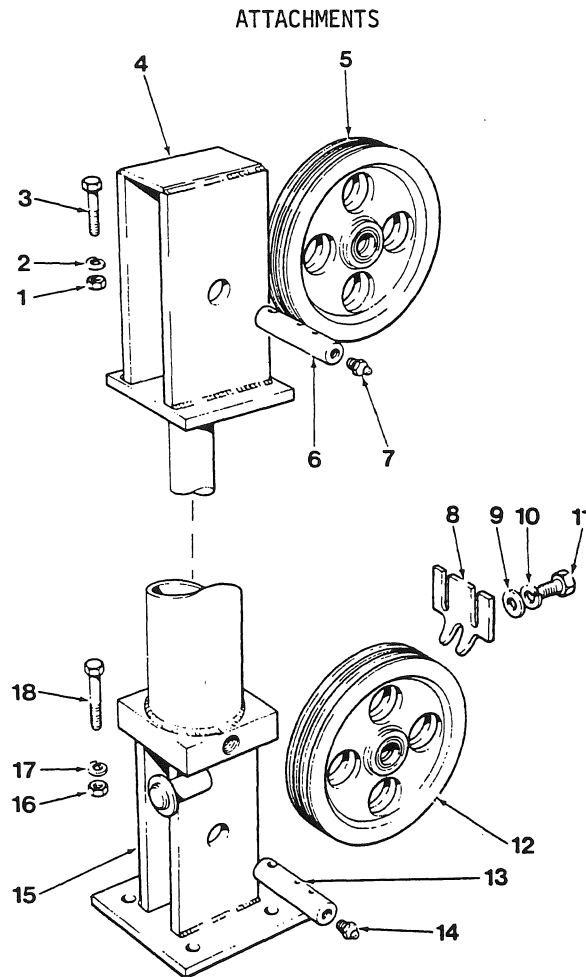

Figure 17
- e. Remove the hexagon head bolts (3 and 18, Fig. 17), nuts (1 and 16, Fig. 17) and lockwashers (2 and 17, Fig. 17) retaining the sheave pins (6 and 13, Fig. 17). Remove the sheave pins and sheaves (5 and 12, Fig. 17). Remove the two hexagon head capscrews (11, Fig. 17), lockwashers (10, Fig. 17) and flatwashers (9, Fig. 17), and remove the ice scraper (8, Fig. 17).
KEY TO FIG. 17
- g. Install the sheaves (5 and 12, Fig. 17) into the sheave housings, and retain with the sheave pins (6 and 13, Fig. 17). Retain the pins with the
- hexagon head bolts (3 and 18, Fig. 17), nuts (1 and 16, Fig. 17) and lockwashers (2 and 17, Fig. 17). Install the ice scraper (8, Fig. 17), and retain with the two hexagon head cap-screws (11, Fig. 17), lockwashers (10, Fig. 17) and flatwashers (9, Fig. 17).